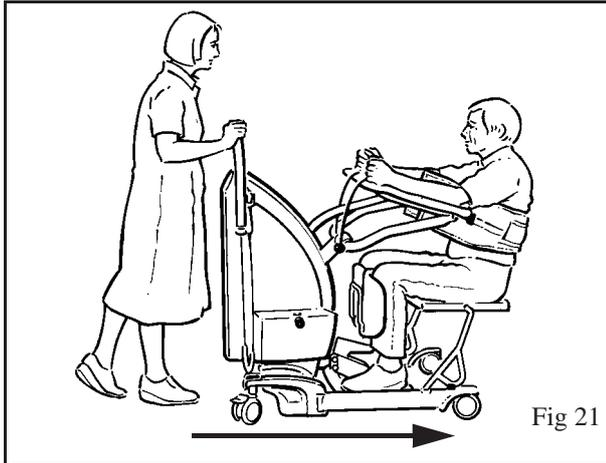

Fig 21
If required insert the detachable seat frame into the receptor holes in the chassis legs, then lower the patient to a comfortable seating position for commode toileting or longer distance transportation. (See Fig 21)
**Note:** Transportation should be done with the chassis legs closed, it is easier through doorways etc. Always move in the direction shown in Fig. 21.